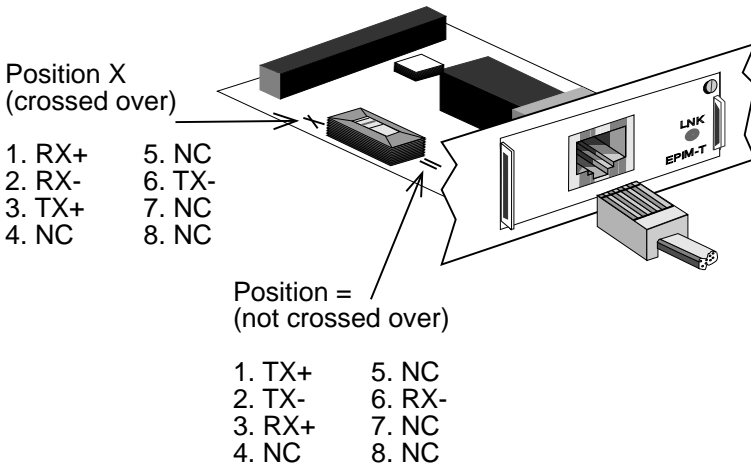

Figure 4-3. EPIM-T Cross-over Switch
Before connecting a segment to the EPIM-T, check each end of the segment to determine if the wires have been crossed-over for the proper connection. If the wires do not cross over, use the switch on the EPIM-T to internally cross over the RJ45 port. Refer to Figure 4-3 to properly set the EPIM-T cross-over switch.
1. Insert the RJ45 connector on the twisted pair segment into the RJ45 port on the EPIM. See Figure 4-3.